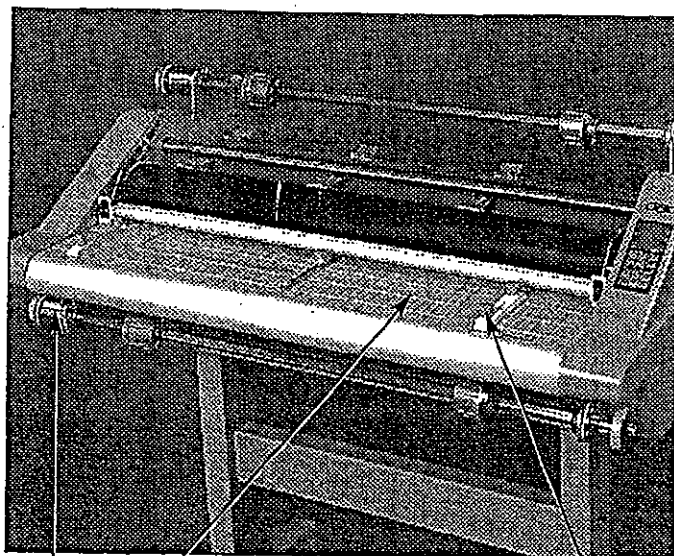

Fig. 3
D. FEED TABLE: The Feed Table, Figure 3, is used to position items for lamination. The laminator will operate only when the Feed Table and Feed Table Latch are properly installed. The table cannot be removed without retracting the latch to the right while lifting the table upwards and away from the laminator.
E. TABLE INTERLOCK LATCH: Used to lock the Feed Table into position and activate an interlock switch. The interlock latch is located on the left underside of the Feed Table, (Figure 3). The laminator will not operate when the table is removed and/or the interlock latch is retracted.
F. FEED GUIDES: The Feed Guides, Figure 3, permit alignment of the item(s) to be laminated. To position the adjustable guides, loosen the knob on the top of the guide(s), slide them/it to the desired position and tighten the knobs to secure the Feed Guide(s) in place. The Feed Guides are used to keep longer items straight. The Center Feed Guide may also be used to feed smaller items side by side by positioning the guide in the center of the Feed Table and placing smaller items against each side of the guide as they are being introduced into the nip rollers.